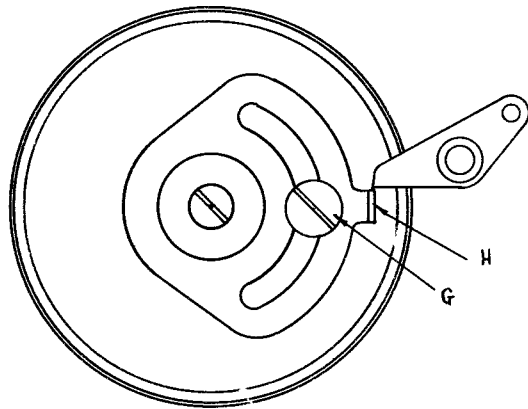

FIG. 33
53. SLACKEN SCREW G AND ADJUST TRIGGER PLATE H (FIG 33) SO THAT THE BELL RINGS 55 CHARACTERS FROM THE BEGINNING OF THE LINE. RETIGHTEN SCREW G.